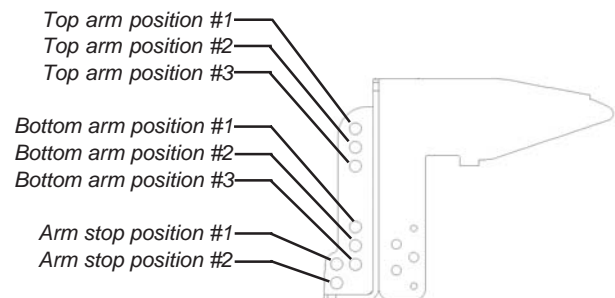

Figure 14 Arm and stop positioning
15. Place the end of each bottom arm between the outside flanges and align them to bottom arm position #1. See Figure 14. Rotate the top arms up and out of the way if they interfere with the installation.
17. Place the end of each top arm between the outside flanges and align them to top arm position #1. See Figure 14.